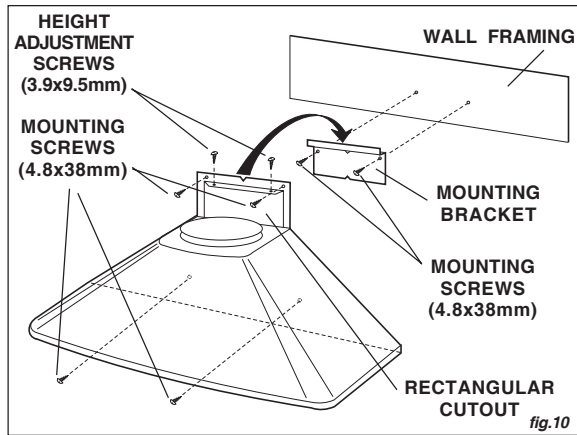

fig.10
3. Align the rectangular opening on the back of the hood with the wall-mounting bracket. Gently lower the hood until it securely engages the bracket. Fig.10
Secure with (2) mounting screws (4.8x38mm). Use drywall anchors provided if wall studs or framing are not available. Fig.10